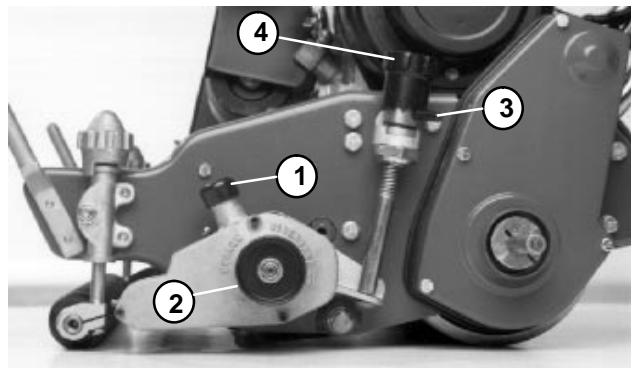
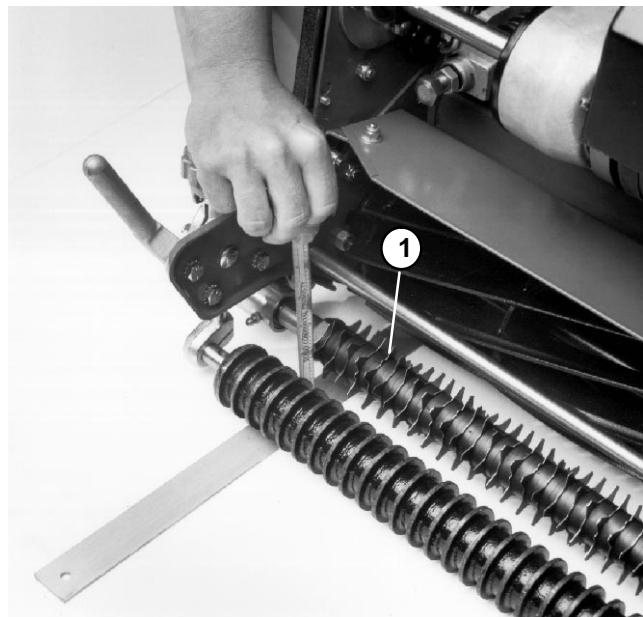

Figure 2
Figure 3
3. Hold clutch snubber down and disengage the clutch by turning the clutch knob clockwise. Use quick-up levers on both sides of the mower to lower the grooming reel into the grooming position (Fig. 2).
4. On one end of the grooming reel, measure the distance from the lowest tip of the groomer blade to the working surface (Fig. 3). Lift and turn micro adjustment knob to raise or lower the tip (Fig. 2). Each notch on the micro adjustment knob is approximately equal to 0.007 inch (0.178 mm).